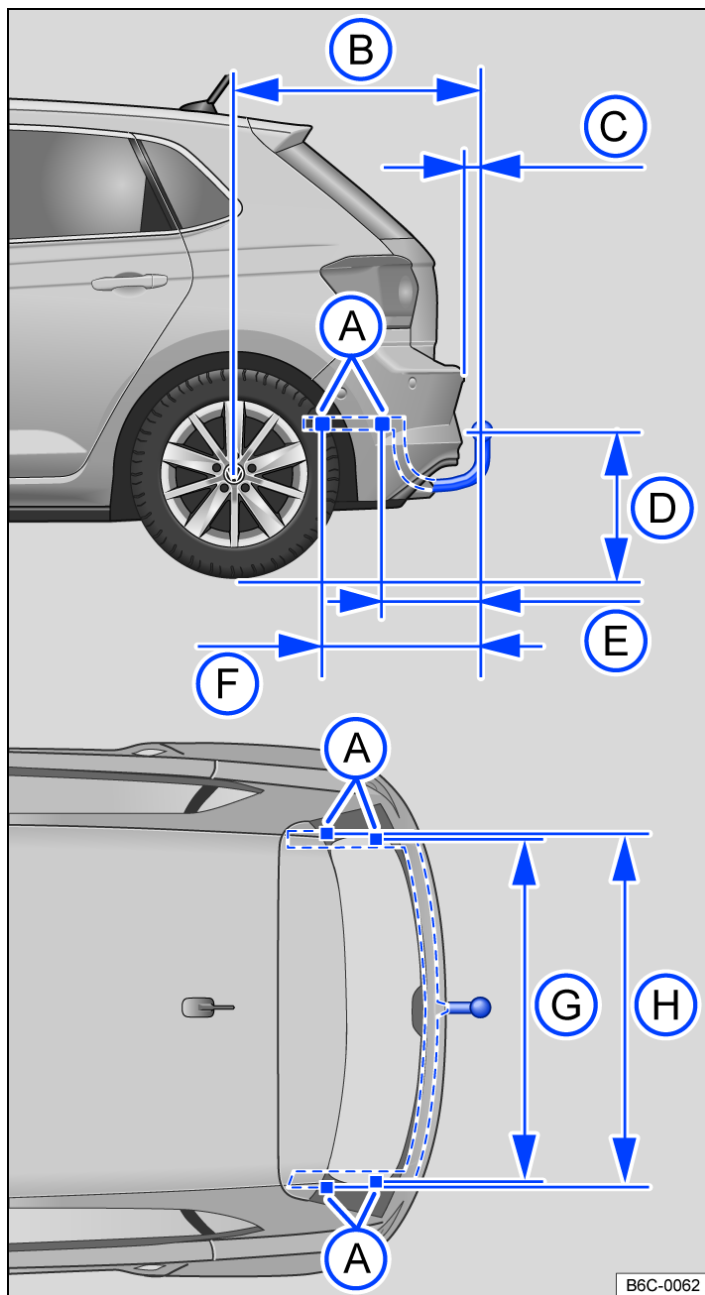

Fig. 1 Dimensions and mounting points for retrofitting a towing bracket.
The dimensions → Fig. 1 must be adhered to when retrofitting a towing bracket. Always observe the minimum distance given from the middle of the ball coupling (D) to the surface of the road. This also applies when the vehicle is fully laden, including maximum drawbar load.
- (A) Mounting points
- (B) 798 mm
- (C) At least 65 mm
- (D) 350 - 420 mm
- (E) 333 mm
- (F) 459 mm
- (G) 1025 mm
- (H) 1031 mm